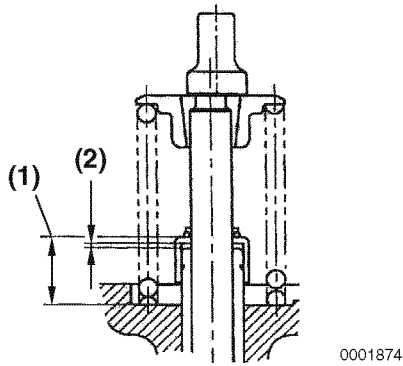

Figure 6-31
2. Measure the distance (Figure 6-31, (1)) from the cylinder head to valve stem seal to ensure proper clearance (Figure 6-31, (2)) between the guide and the seal. See Valve Stem Seal Projection specification on page 6-7.